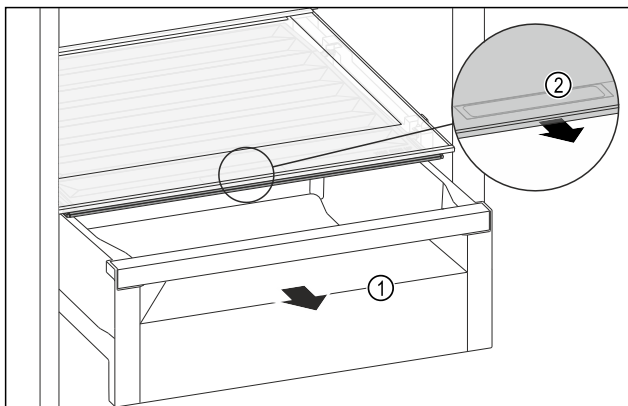

Fig. 103
- ▶ Pull out the drawer Fig. 103 (1).
- ▶ Grasp the recessed grip Fig. 103 (2) on the compartment lid and pull the compartment lid forwards at the same time.